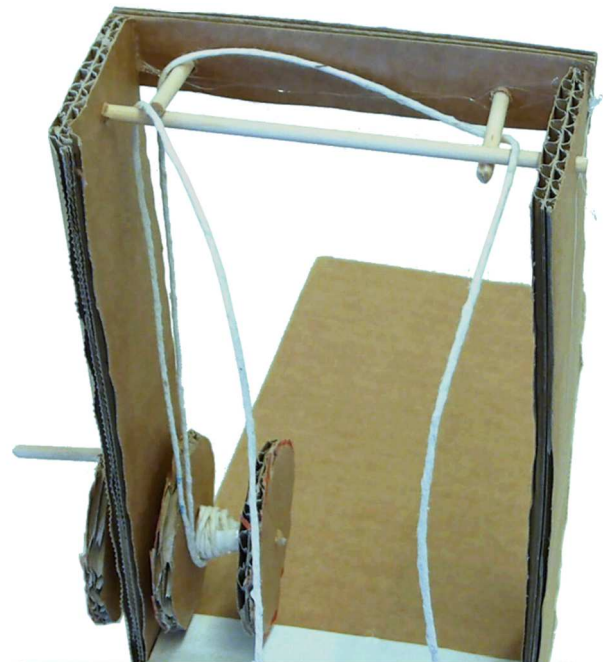

Figure 8. Arrangement of the strings
25. Take the other string and pass it **upwards**, too, **through** the opening between **pulley 1** and **3**, to the **left over pulley 3** and **under pulley 2**, then **upwards through** the opening between **pulley 1** and **2** and **over pulley 1** (fig. 8).
26. Turn the bridge around and push either string **through hole ⑦** and **⑧** without crossing the strings.